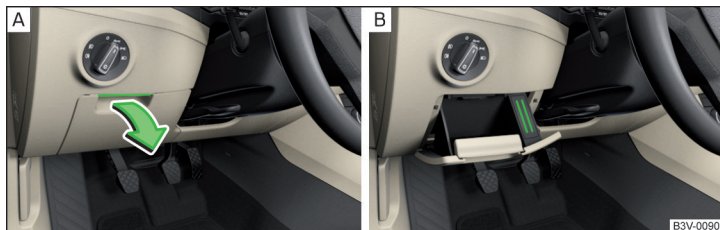

Fig. 81 Opening the storage compartment / card holder
- > To **open**, lift the handle and fold out the compartment in the direction of the arrow » Fig. 81 **A**.
A card holder is located in the storage compartment » Fig. 81 **B**.